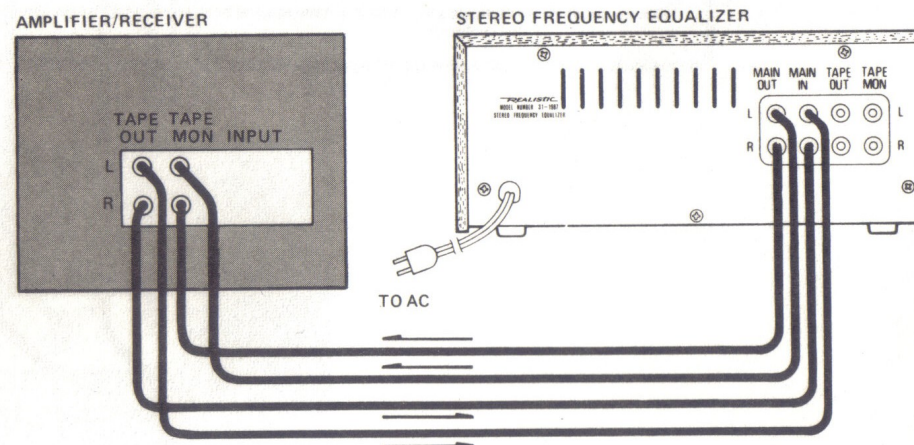
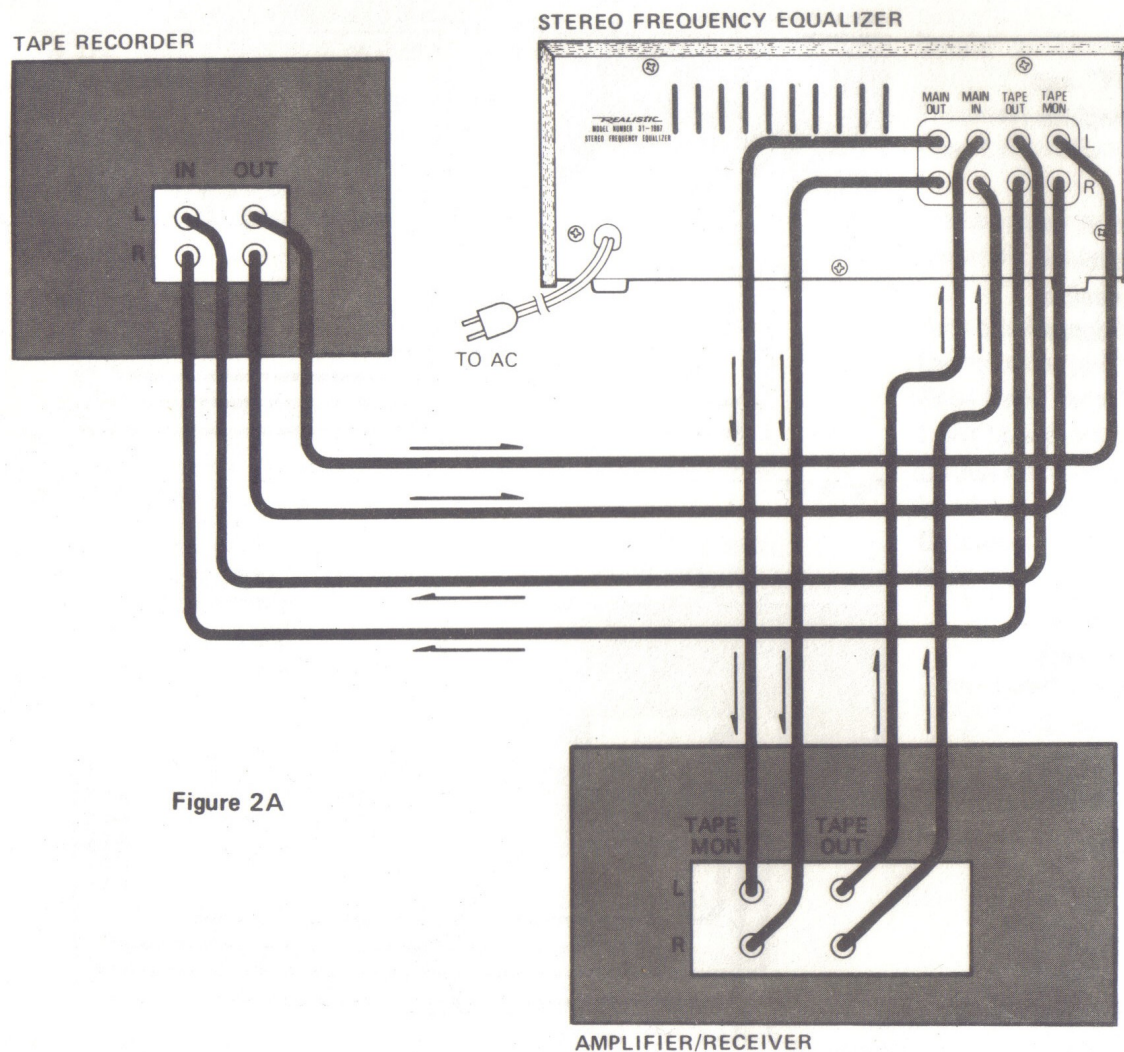
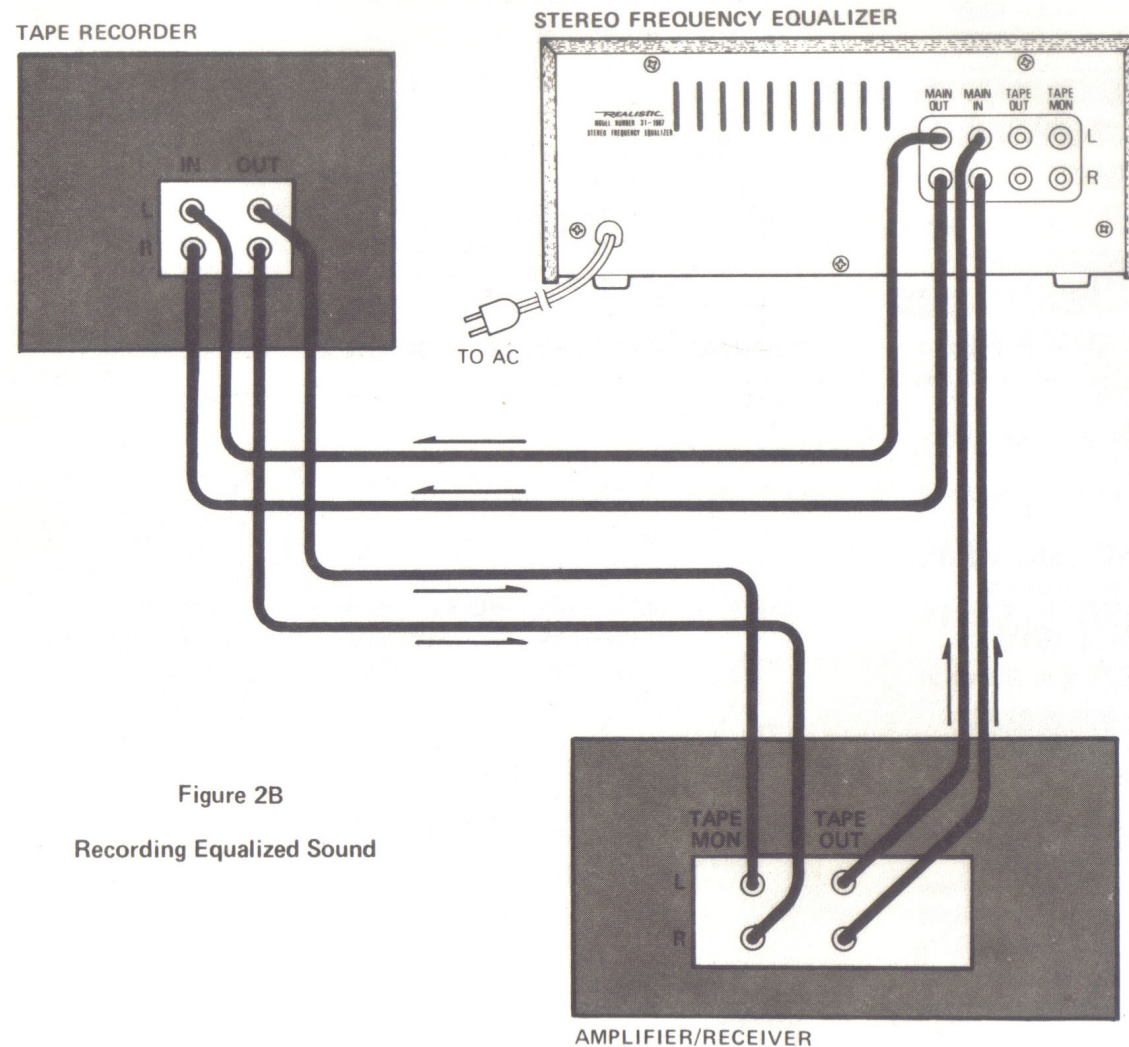

Figure 1B
Figure 2A
Figure 2B
With an integrated Amplifier/Receiver which has a Tape Monitor Switch, make connections as shown in Figure 1B. Set the Amplifier/Receiver's Tape Monitor switch to the IN or MONITOR position. To disconnect the Equalizer, set the Amplifier/Receiver's Monitor switch to the OUT position.
To incorporate the Tape Monitor feature with wiring as shown in Figure 1B, change connections to be as shown in Figure 2A. If your Tape Recorder has monitor function (a 3-head deck), press the Equalizer's **MONITOR** button to hear the recording after it has been made (also, for normal Playback of tape from your Recorder).
IMPORTANT NOTE : When you are using connections as illustrated in Figure 2A, when you "monitor" the recording, it will have been processed by the Equalizer — and thus will not be an accurate "monitor" signal. For accurate monitoring under these conditions, you must set the Equalizer's sliding frequency controls to the center "0" position.
When you make connections as shown in Figure 2A, the signal to the Recorder does not go through the Equalizer. If you'd like to control the recording through the Equalizer, you can make connections as shown in Figure 2B and leave the Equalizer's **MONITOR** switch in the "out" position. You should realize that this type of connection will result in other than ordinary recordings, but you may want to experiment with this approach.
With connections made according to Figure 2B, you can monitor the recording (assuming your Tape Recorder has 3 heads) by using the Amplifier/Receiver's Monitor switch. With these connections, the "source" signal will not be processed by the Equalizer.
- A. To playback tapes, connect as shown in Figure 2A and press in the Equalizer's **MONITOR** switch.
- B. To monitor the recording, use the connection shown in Figure 2A and turn "on" the Equalizer's **MONITOR** switch.
- C. To record through the Equalizer, make connections as shown in Figure 2B.